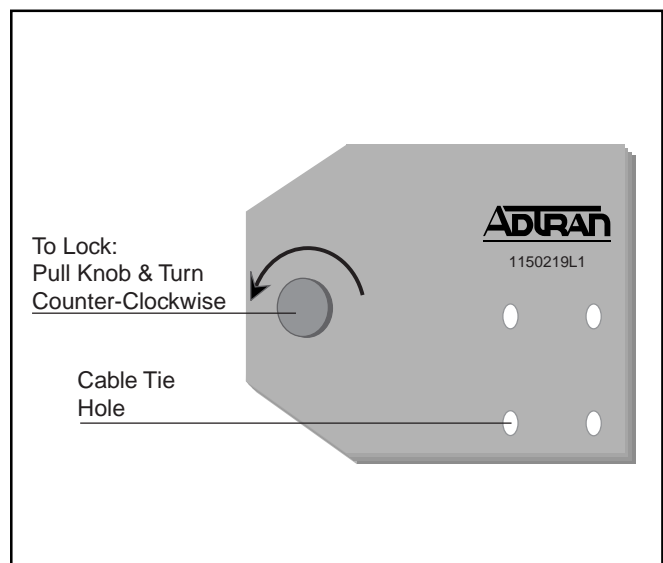

Figure 2. BR/10 Mounting
| Figure 2. BR/10 Mounting | 2 |
1. Lock the right knob, located on the side of the assembly, by pulling the knob out and rotating counter-clockwise until it has locked open. See Figure 2 for an illustration.
3. Using a small phillips head screwdriver, remove the four (4) back panel screws and remove the back panel.
5. After the electrical connections have been made, route all wiring through the semi-circle opening in the back panel and secure with four (4) screws.
6. Route cable ties (provided) through the cable tie holes on the right side of the assembly (see Figure 2) and loosely secure cables.